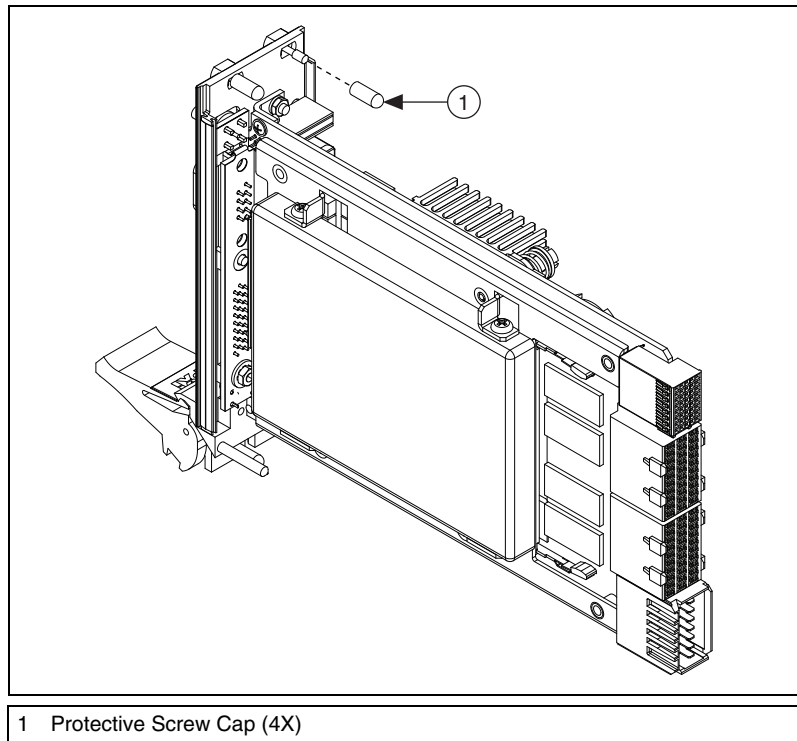

Figure 2-1. Removing Protective Screw Caps
4. Remove the protective plastic covers from the four bracket-retaining screws as shown in Figure 2-1.
3. Unscrew the 4 bracket-retaining screws in the front panel. Refer to Figure 2-1 for the location of these screws.